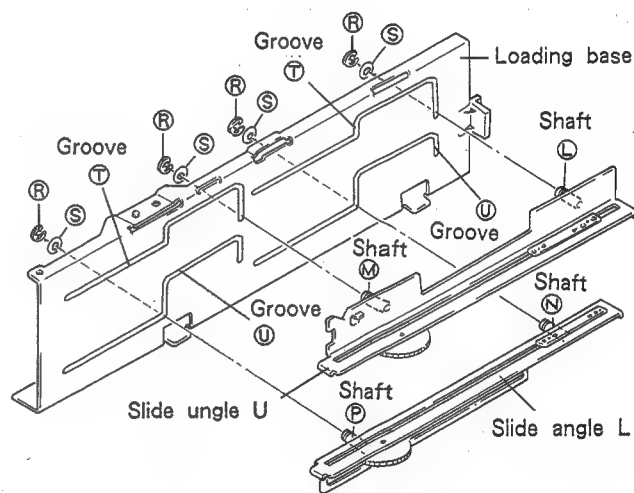

Fig. 10-2.
As shown in Fig. 10-2, slide angle U and slide angle L have shafts ① and ③ and shafts ④ and ⑥ respectively, and E-rings ⑦ and washers ⑧ are used to attach these angles to loading base.